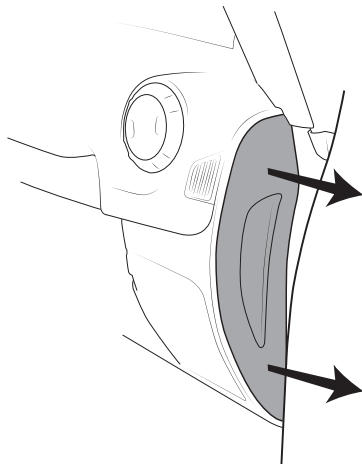

Figure 10
1. Remove the side panel from the dash on the passenger side (fig. 10)